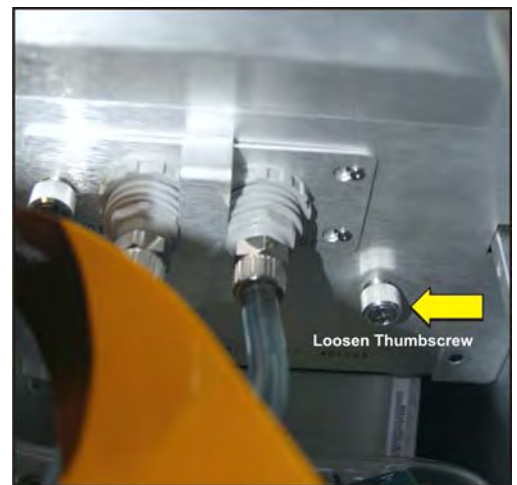

Figure 5-42 Liquid Cooling Quick Disconnects
4. Disconnect the two coolant hoses from the quick disconnects. Then loosen the thumbscrew located on the bracket next to the disconnects. **(Figure 5-42)**